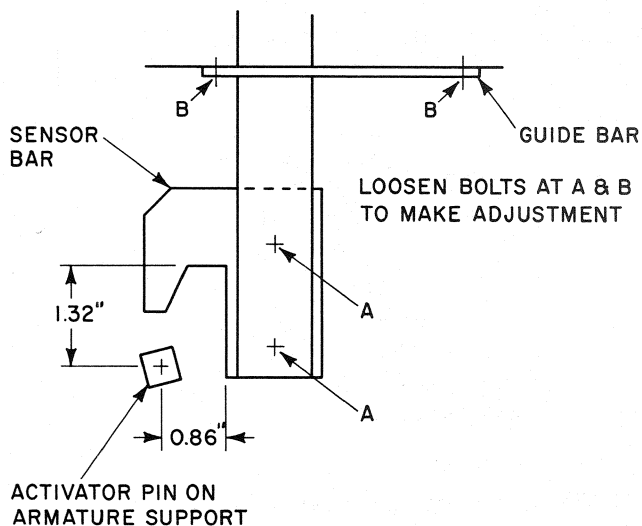

Fig. 39. Location of activator pin to sensor bar with contactor de-energized
1. With interlock assembly mounted on the contactor and the contactor units in the de-energized position, adjust the guide bar and the sensor bar, relative to the activator pin on armature support, to dimensions shown in Fig. 39.